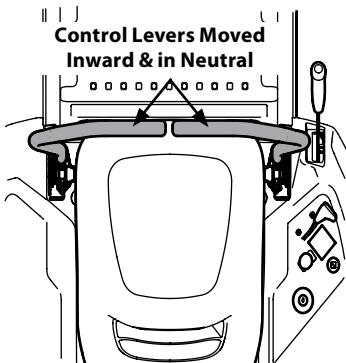

Figure 3-3
- Move the RH and LH drive control levers inward in the neutral position which also disengages the parking brake. Refer to Figure 3-3.